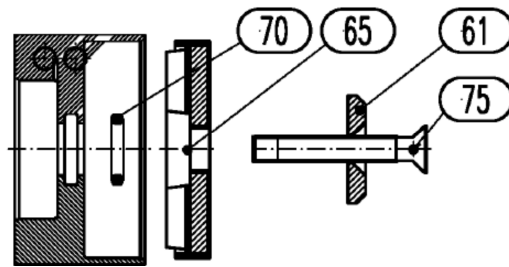

Figure 6-3
6. While pulling the pressure plate from the shafts, make sure that the 2 O-rings (70) stay on the shaft or put them back in position right after removing the plate.
7. Remove the 3 screws (75) and washers (61); see «Figure 6-3», and remove gate.
9. Use only the new screws (75) supplied with the spare gate or ordered separately to reassemble the gate.
11. Tighten the 3 screws (75) with a torque of 9 Nm; see «Figure 6-3».